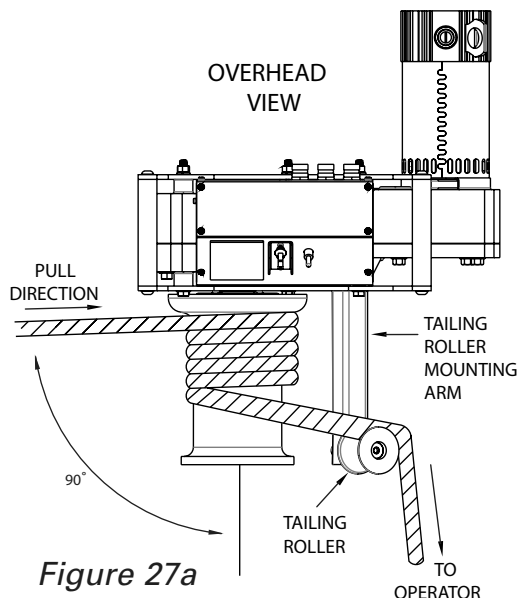

Figure 27a
As shown in the overhead view, Figure 27a, the pulling rope must approach the capstan at a  $90^\circ$  angle. This will help avoid rope overlap.
Make several wraps of the pulling rope around the capstan, beginning at the housing end of the capstan. See Figure 27a.
Next, guide the pulling rope around the tailing roller as shown in Figure 27a. This will enable the operator to stand at a  $90^\circ$  angle to the cable puller and out of the direct line of tight pulling rope.
ALWAYS use tailing roller to guide rope so that operator stands at 90° angle to the cable puller and out of the direct line of tight pulling rope. See Figure 27a.
ALWAYS wrap rope beginning at housing end of capstan as shown in Figure 27a.
To help avoid rope overlap, rope must approach capstan at a 90° angle. See Figure 27a.
4. Hold the tailing end of the pulling rope as it comes off the tailing roller (see Figure 27a) and pull slightly. Turn the cable puller circuit breaker ON.